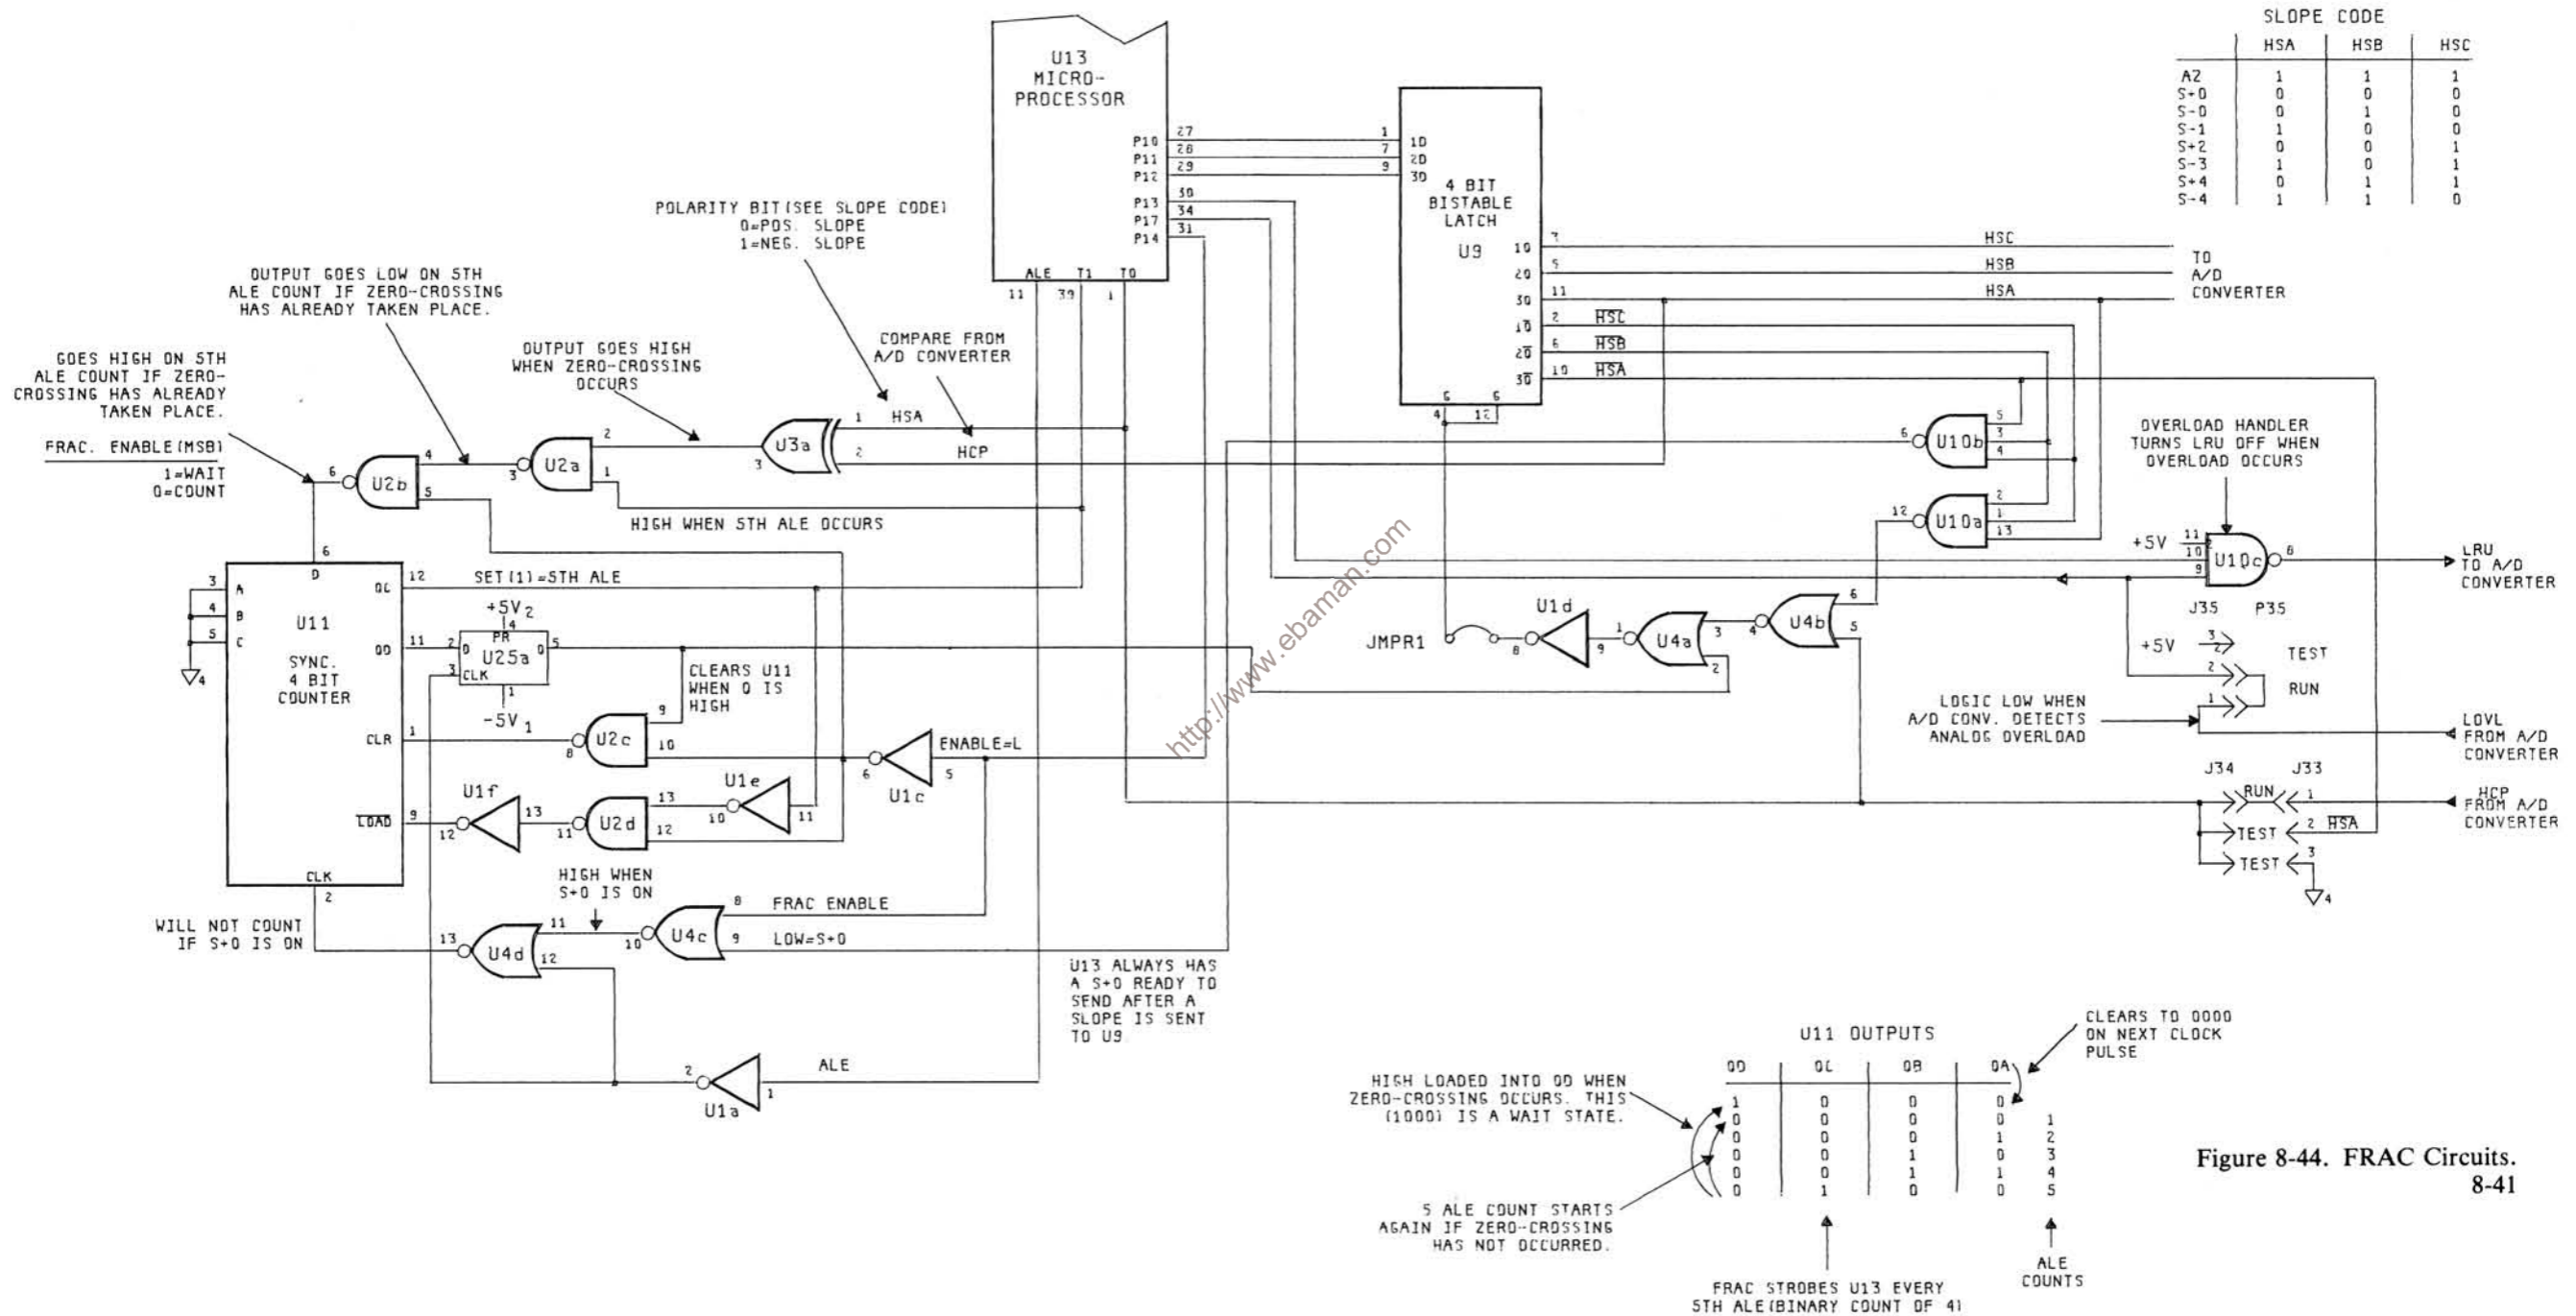

Figure 8-44. FRAC Circuits. 8-41
8-200. FRAC. Refer to Figure 8-44 (FRAC Circuits) for the following circuit discussion. The FRAC (Five Rundown ALE Counter) circuit is part of a large loop that includes the A13 μP and the integrator/comparator circuits in the A/D Converter. The FRAC looks at both the polarity bit (HSA) from U13 and the comparator bit (HCP) from the A/D comparator during rundown. The HSA and HCP logic levels contain slope information which FRAC uses to start or stop the slope in the integrator circuit. The FRAC counts the time the slopes are on by strobing the μP ’s internal counter (U13, pin 39) on every 5th ALE during rundown, if an $S \pm 4$, $S - 3$, $S + 2$, or $S - 1$ slope is on. Each time period between these strobes is equal to one A/D count, therefore 5 ALE’s equal one A/D count (12.82 microseconds for 60 Hz, 15.38 microseconds for 50 Hz). The μP counts these A/D time periods during rundown and computes the measurement value.
8-211. FRAC Circuit Description. Refer to Figure 8-44 (FRAC Circuit) for the following circuit description. The FRAC is part of a large loop and the focal point of the FRAC circuit is U11, a 4-bit counter. A table showing the "Q" output states for U11, during FRAC's count-to-five routine, is shown in Figure 8-44. Only two of these outputs, QC and QD, are used for FRAC circuit operations.
8-212. The QC output goes high on the fifth ALE count. This high accomplishes the following three things: (1) Strokes the counter in the MP (U13, pin 39). (2) A high is applied (via U2a and U2b) to the "D" input of U11 (pin 6) if a zero-crossing has already occurred (see Figure 8-44). (3) A low is applied (via U1e, U2d and U1f) to the load input of U11 (pin 9). A low on the load input of U9 causes U11's outputs (QD, QC, QB, and QA) to agree with the setup data on pins 6, 5, 4, and 3 when the next ALE pulse (clk input) occurs. The outputs will be 1 0 0 0 if a zero-crossing had occurred (see U11 Output Table).
8-215. The polarity bit line (HSA) is one of the inputs to U3a (pin 2). The other input line is the HCP line from the A/D Converter (U3a, pin 1). To follow the operation of U3a for each type of slope, refer to the 3-bit slope code (HSA, HSB, HSC) in Figure 8-44. For example, when the HSA polarity bit is "0", the HCP line will go high when zero-crossing occurs. The output of U3a goes high with these inputs.
8-220. RUNUP. Refer to Paragraph 8-54 in the A/D Converter section for background information regarding Runup and to Figure 8-44 for the following discussion. Codes for $S \pm 4$ slopes and $S \pm 0$ dead-count periods are the only slope codes generated by the Inguard μ P (U13) during Runup. The enable line to pins 4 and 12 of latch U9 are held high during runup so the data from U13 is passed through to the A/D Converter circuits without enabling commands. The LRU (Low True, Runup) level from NAND gate U10c is an enabling signal for the A/D Converter circuits used during runup. This logic low is on for the entire Runup period (high from U13 pin 30, high on the LOVL line from the A/D Converter, and the high level on pin 11 provide this logic low).